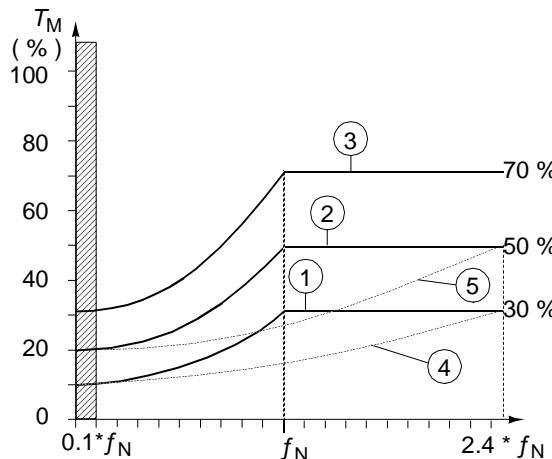

Figure 6-17 Underload curve types. T_M nominal torque of the motor, f_N nominal frequency of the motor.
30.15 UNDERLOAD CURVE	This parameter provides five selectable curves shown in Figure 6-17. If the load drops below the set curve for longer than the time set by Parameter 30.14 UNDERLOAD TIME, the underload protection is activated. Curves 1 ... 3 reach maximum at the motor rated frequency set by Start-up Data Parameter 99.07 MOTOR NOM FREQUENCY.